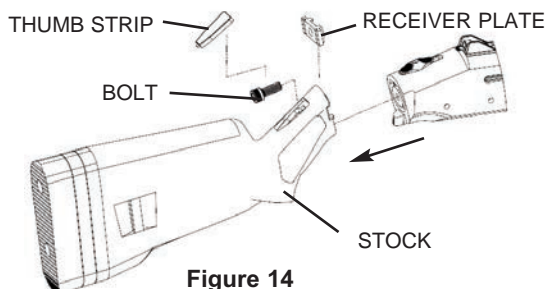

Figure 14
1. Using a small screwdriver, remove the thumb strip from the rear of the stock as shown in Figure 14.